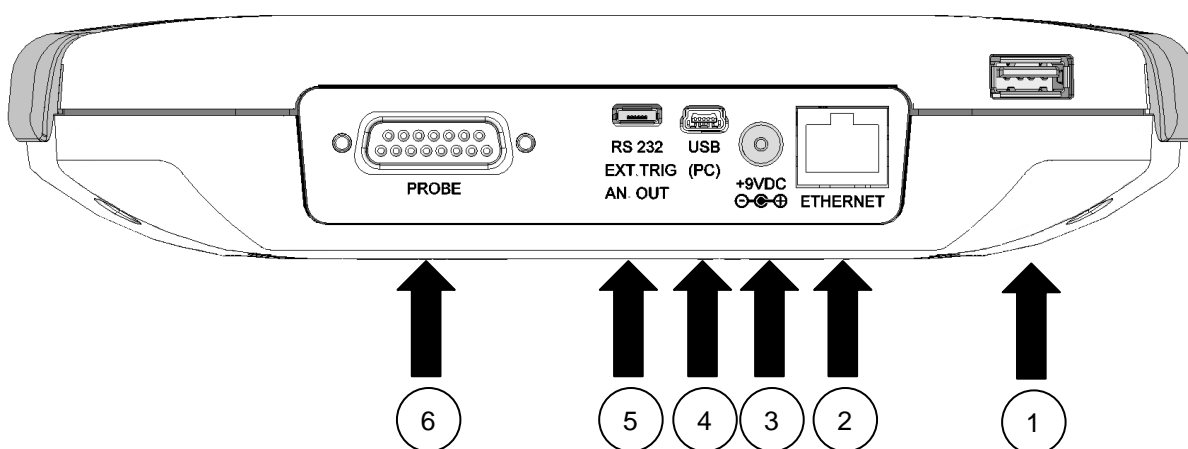
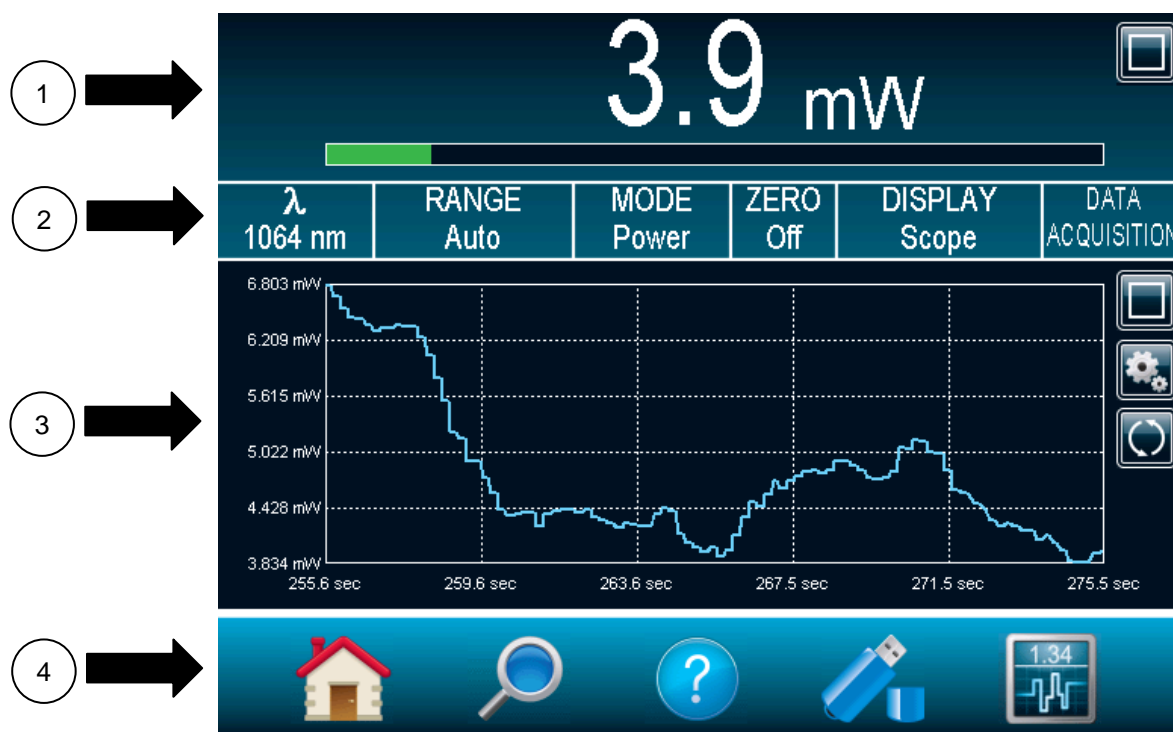

Fig. 1-2 MAESTRO Top Panel
Fig. 2-1 MAESTRO Start up window
The MAESTRO is delivered ready to use. Just insert a detector head in the Probe Input Jack (#6 in Figure 1-2) and press the I/O key. The following window will appear on the monitor (Figure 2-1). It is separated into four different areas.
- 3- **Turn the MAESTRO off** and connect a compatible power or energy detector head to the MAESTRO using the **PROBE INPUT JACK** (see Fig. 1-2). The Maestro allows hot-swapping between heads.
- 6- Power heads will default the MAESTRO to power measurement; energy heads will default the MAESTRO to energy measurement. The display will default to a dual display in real time and scope (Fig 2-1) in auto range mode.